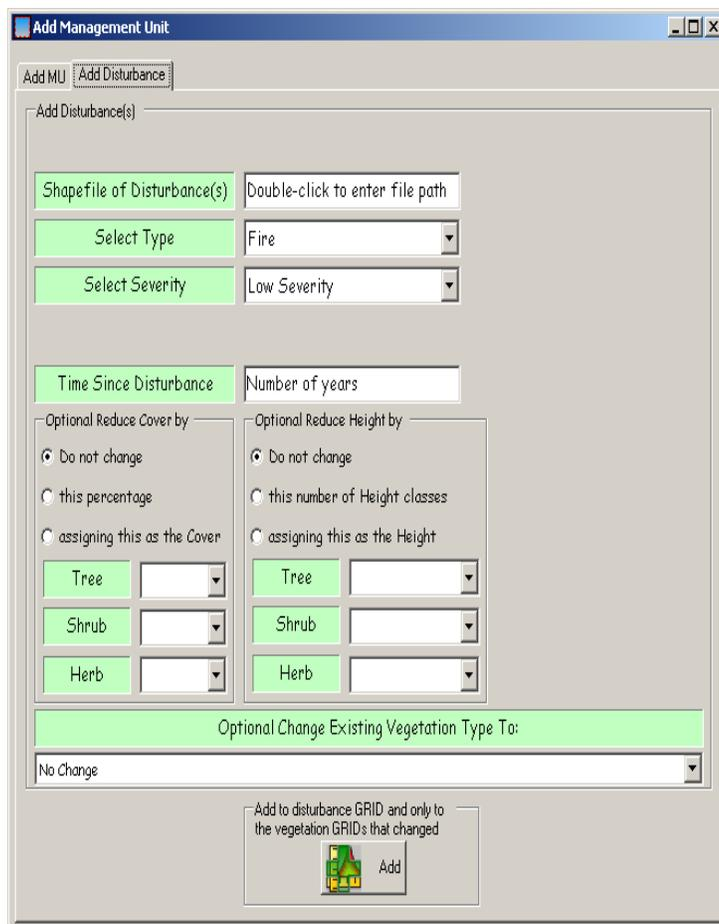

Figure 7-17. **Add Management Unit** dialog box with **Add Disturbance** screen visible.
- To add a disturbance layer, click on the **Add Disturbance** tab at the top of the **Add Management Unit** dialog box to specify the type and specific characteristics of disturbance (optional). (For additional information review section 3.2.1). The following screen will open (fig. 7-17).